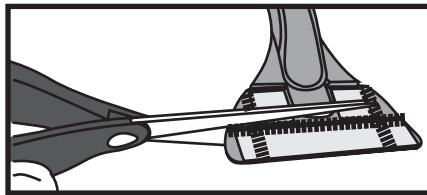

Figure 9; Trim the Blind Mount
NOTE: If the HORIZONTAL BLIND MOUNT (B) extends beyond the top or the side of the blind's header, trim the HORIZONTAL BLIND MOUNT (B) to fit [Fig. 9]. Additionally, if you have a valance installed on the blinds, make sure the top of the neck of the HORIZONTAL BLIND MOUNT (B) is even with or slightly below the bottom of the valance.